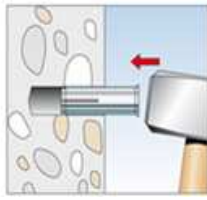

Figure 2
3. Drive the drive-in anchor with light hammer blows through the anchoring hole in the safe **flush with the floor** into the drill hole. You can use the thick side (Ø20 mm) of the driving tool for this [Fig. 2].